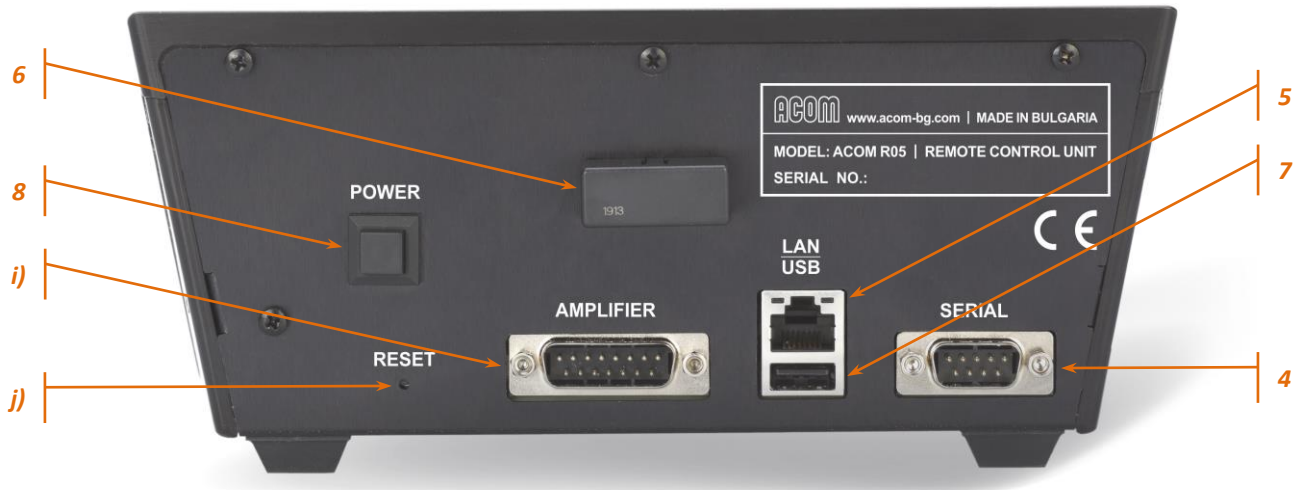

Figure 2-5 RCU model R05 rear panel
Please, see **Figure 2-3 Amplifier rear panel - Connections** and **Figure 2-5 RCU model R05 rear panel**. Connection to your station must be accomplished in the order described below, before you apply mains voltage to the amplifier.
Connect the ACOM 2020S to RCU connection cable (part of delivery - see *1.3 Equipment Supplied*, Pos. 3) from the connector **RCU** (see *Figure 2-3 Amplifier rear panel - Connections*, Pos. (f)) to the connector **AMPLIFIER** located on the RCU rear panel (see *Figure 2-5 RCU model R05 rear panel*, Pos. (i)).
Please, see **Figure 2-5 RCU model R05 rear panel**, Pos. (i).
Please, see **Figure 2-5 RCU model R05 rear panel**, Pos. (j).
Please, see **Figure 2-5 RCU model R05 rear panel**, Pos. (4) and **Table 2-2 Signals and pin out of the RCU SERIAL connector**.
Please, see **Figure 2-5 RCU model R05 rear panel**, Pos. (5) and **Table 2-4 Signals and pin out of the LAN socket**.
Please, see **Figure 2-5 RCU model R05 rear panel**, Pos. (6).
Please, see **Figure 2-5 RCU model R05 rear panel**, Pos. (7) and **Table 2-5 Signals and pin out of the USB type A socket**.